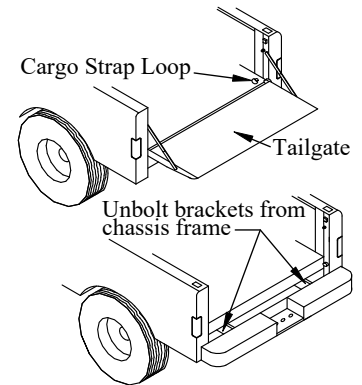

Figure 2: Remove Hardware.
1. **Remove** the tailgate and hardware shown (Figure 2).